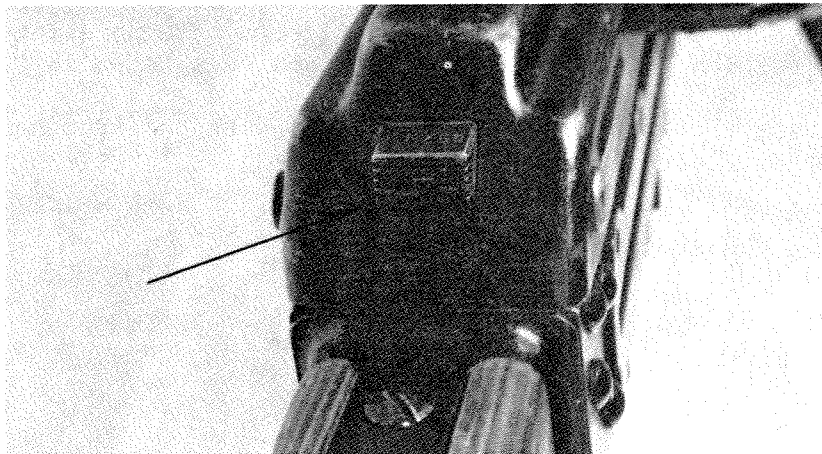

Figure 3-2. Receiver cover latch located at the rear of the weapon.
c. Grasp the weapon by the buttstock; with the free hand, depress the receiver latch button (fig. 3-2).